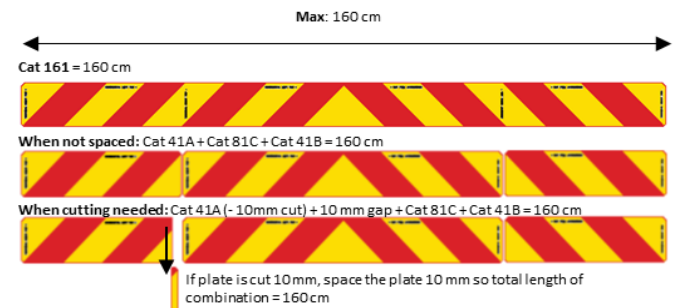

Figure 2. Example - Cutting
- If cutting is unavoidable, only remove a strip of material not wider than 10mm, and fit so that overall dimensions of the plates are maintained (see Figure 2).